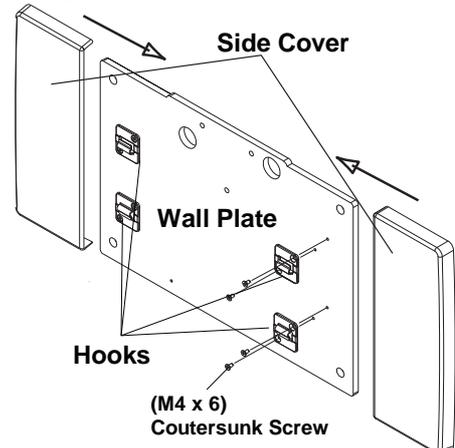

Fig.3-10 Side Cover Installation
2. Slide in the side cover from right and left side of the wall plate as the hooks catch the side covers. **(Fig.3-10)**